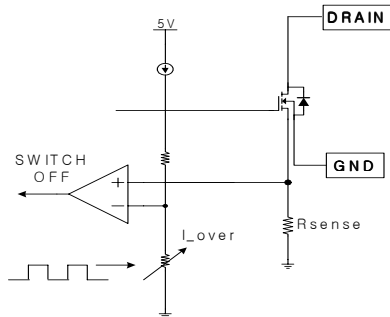

Figure 8. Soft Start Function
5. Soft Start : The FPS has an internal soft start circuit that increases the feedback voltage together with the Sense FET current slowly after it starts up. The typical soft start time is 15msec, as shown in figure 8, where progressive increments of Sense FET current are allowed during the start-up phase. The pulse width to the power switching device is progressively increased to establish the correct working conditions for transformers, inductors, and capacitors. The voltage on the output capacitors is progressively increased with the intention of smoothly establishing the required output voltage. It also helps to prevent transformer saturation and reduce the stress on the secondary diode.